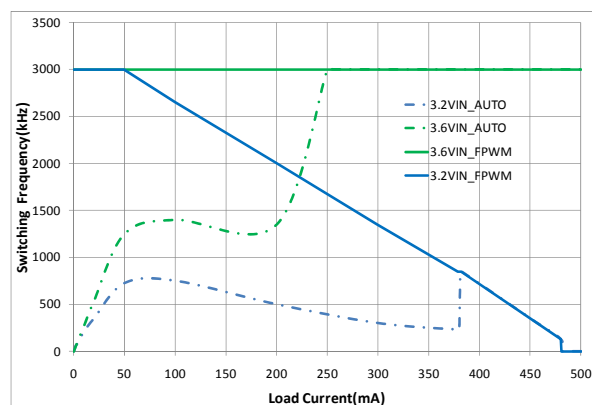

Figure 8. Effect of  $t_{OFF(MIN)}$  on Reducing Switching Frequency
- Limited by the effect of  $t_{OFF}$  minimum (see Figure 8 in Typical Performance Characteristics).